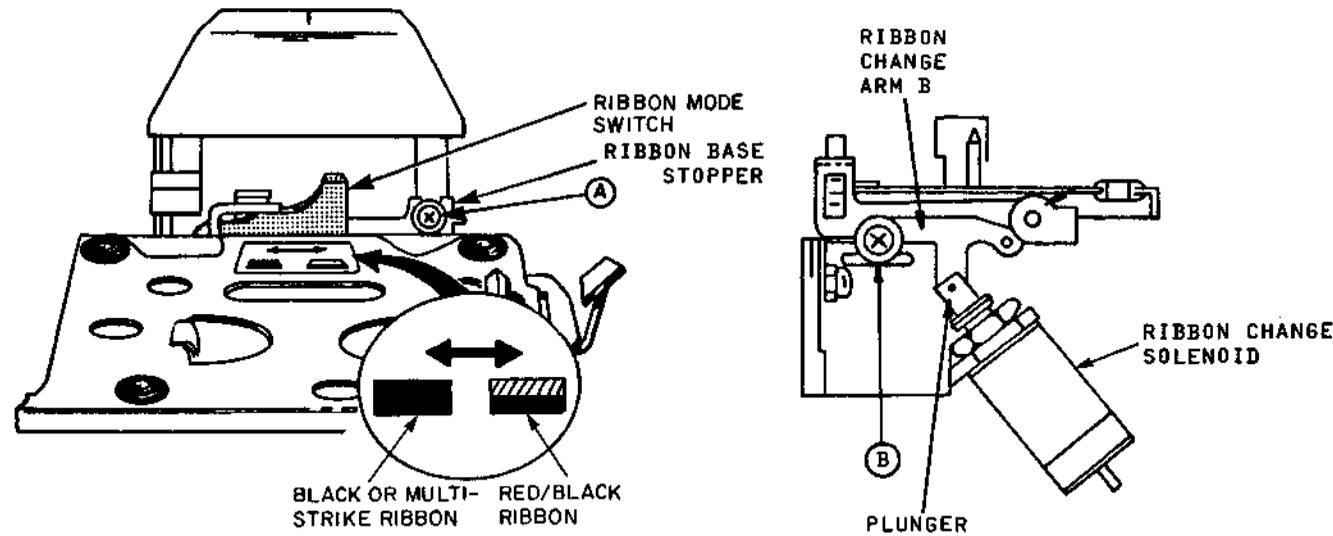

Figure 5-3 Ribbon Color Change Adjustment Location
- Refer to Figure 5-3. Slide the ribbon mode switch to the red/black position.
- Adjust the ribbon base stopper using screw A (Figure 5-3) so that the gap between the ribbon top edge and the top projection of the card holder bracket (Figure 5-4) is within the range of  $0 \text{ mm} \pm 0.1 \text{ mm}$  ( $0\text{-inch} \pm 0.004\text{-inch}$ ).
- Loosen adjusting screw B shown in Figure 5-3.